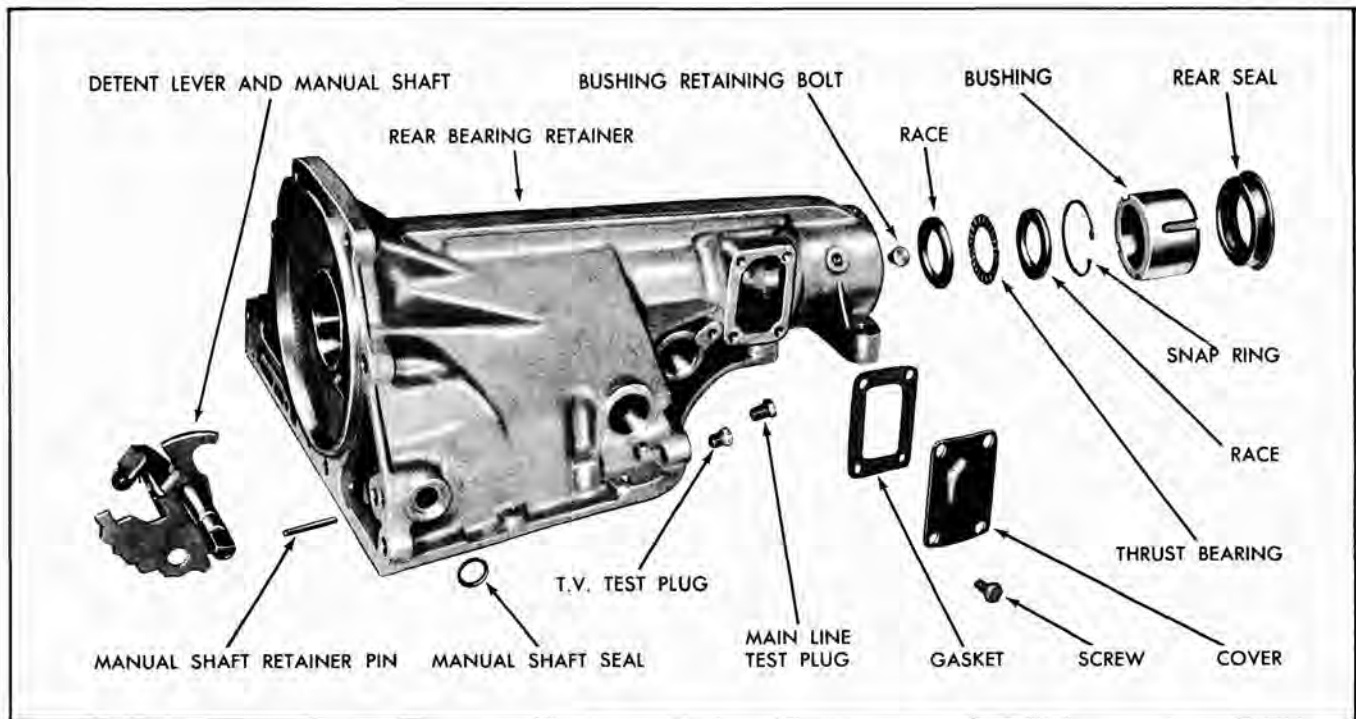

Fig. 104 Rear Bearing Retainer
4. Remove the rear thrust bearing race to rear bearing retainer thru snap ring through access hole in retainer (Fig. 104).